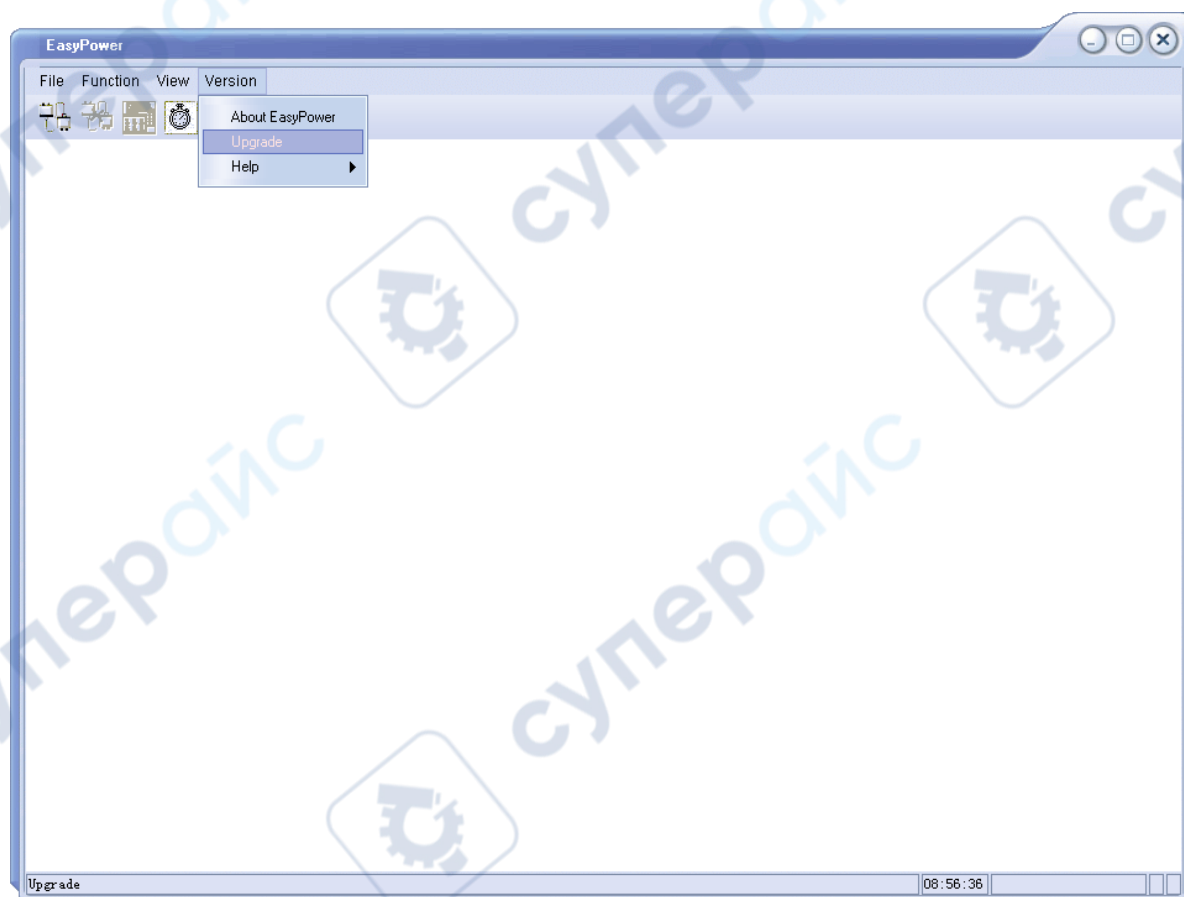

Figure 1
2. Click Version and then choose Upgrade in the drop-down menu to enter the firmware upgrade dialogue; See figure 1: